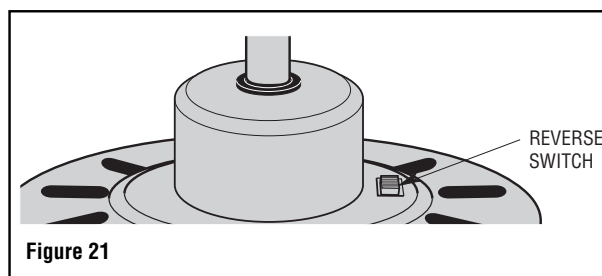

Figure 21
18. All fans are shipped from the factory with the reverse switch positioned to the “left” circulate air downward. If airflow is desired in opposite direction, turn your fan OFF and wait for the blades to stop turning, then slide the reverse switch to the “right” position, and turn fan on again (Figure 21).